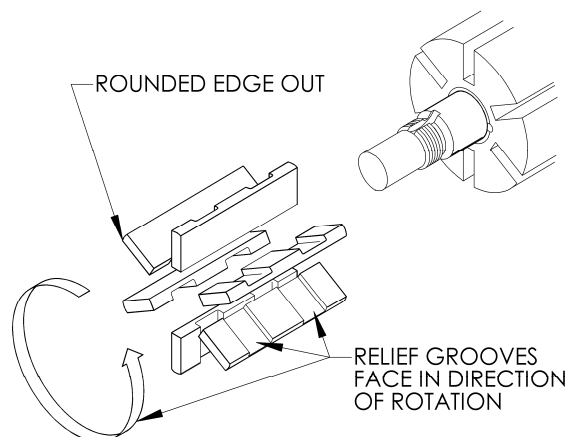
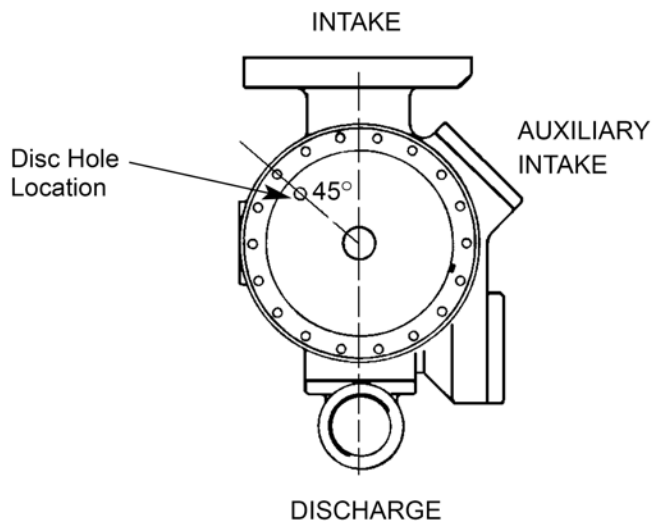

Figure 4 – Vane Installation
Figure 5 - Disc Relief Hole Location
3. Turn the shaft by hand until a vane (14) comes to the top (12 o'clock) position of the rotor. Remove the vane.
4. Install a new vane (14), ensuring that the rounded edge is UP, and the relief grooves are facing towards the direction of rotation. See Figure 4.
1. Install the liner key (74) in the groove on top of the liner (41).
2. Align the liner key (74) with the pump casing keyway and start the liner (41) into the casing (12) with the slots in the liner towards the INTAKE port, and the hole pattern in the liner towards the DISCHARGE port. Uniformly tap the outer edge of the liner with a rubber mallet to fully insert into the casing. NOTE: If the liner is installed backwards, it will restrict the port openings and cause cavitation, noise and loss of capacity.
3. Place the disc (71) against the liner (41) with the seal cavity outward and disc relief hole located as shown in Figure 5.
4. Without installing the head O-ring or mechanical seal components, temporarily attach the outboard head (20) and bearing (24) to the casing (12). Install and hand tighten two head capscrews (21), 180 degrees apart. This head will be used to hold and align the rotor and shaft (13) while the inboard side of the pump is assembled.
5. Remove the vanes (14) and push rods (77) from the rotor and shaft assembly (13). Inspect for wear and damage, and replace as follows:
- a. Partially install the non-driven end of the rotor and shaft (13) into the open side of the pump casing (12).
- b. Leave part of the rotor outside of the casing (12) so that the bottom vanes (14) can be installed and held in place as the push rods (77) are installed in the push rod holes of the rotor. Insert the new vanes into the rotor slots with the rounded edges outward, and the vane relief grooves facing TOWARDS the direction of rotation. Refer to Figure 4.
- c. After the bottom vanes and push rods are installed, insert the rotor and shaft (13) fully into the casing (12).
- d. Install the remaining vanes (14) into the top positions of the rotor.
6. Install the disc (71) on the inboard side of the pump with the seal cavity facing outward and the disc relief hole located as shown in Figure 5.